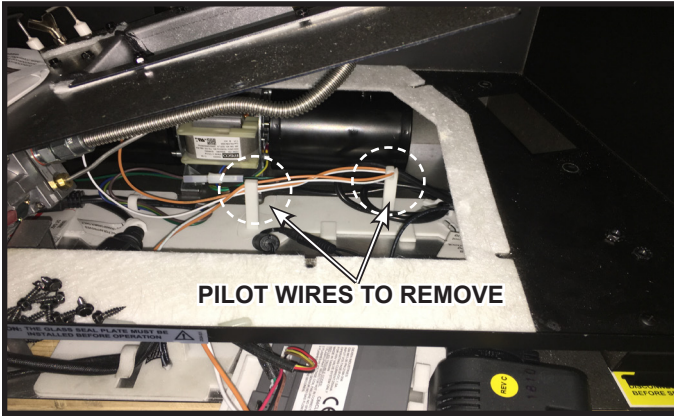
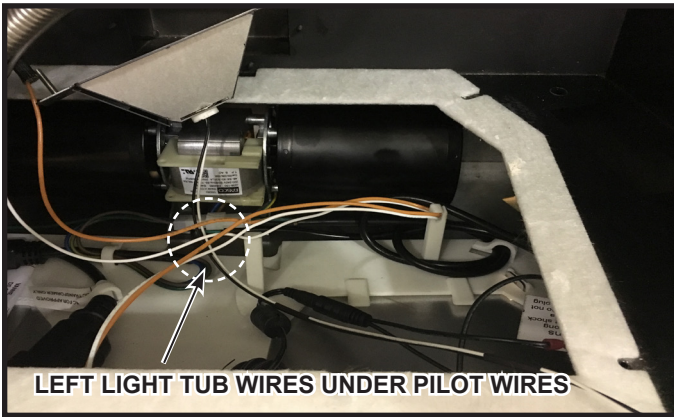

Figure 6.
Figure 7.
- Remove pilot wires from post. See Figure 6. Route left light tub under the pilot wires, reinstall pilot wires into post. See Figure 7.